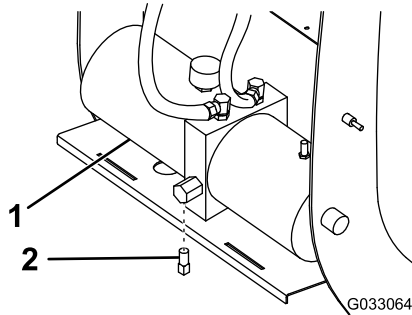

Figure 38
5. Clean the area around the drain plug (Figure 38).